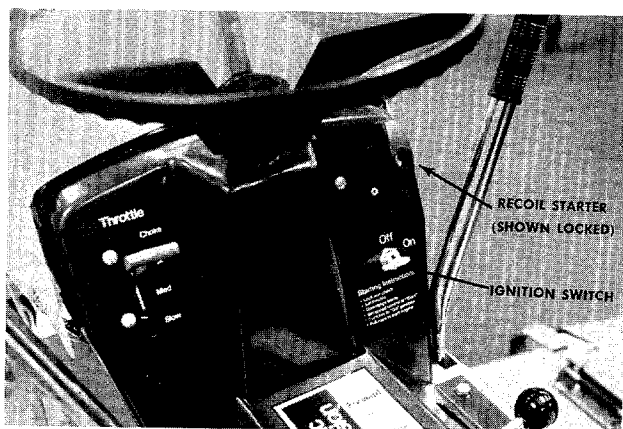

FIGURE 10. RECOIL STARTER
Recoil Model. See figure 10. Turn the key to the ON position when starting the engine. To stop the engine turn the key to the left to the OFF position and remove the key to prevent accidental starting.
k. Recoil Starter. Model 132-480 Only. The recoil starter is located on the right side of the dashboard. The recoil starter can either be pulled while seated on the rider or pulled while standing behind the rider. The ignition key must be on before the engine will start. After the engine starts, the recoil starter handle must be returned and locked into the dashboard before the blades or clutch are engaged. The engine will stop if you do not follow these instructions. See figure 10.